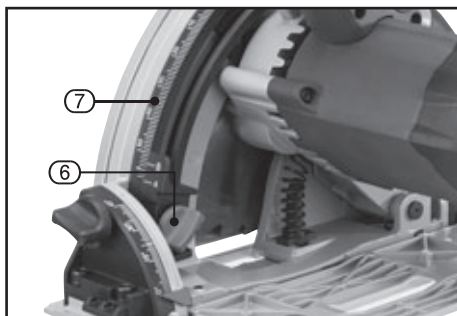

FIG.7
9.3 CUTTING DEPTH ADJUSTMENT – FIG.7
- Unfasten the cutting depth adjustment knob (6) and set the required depth using the scale (7) and retighten the knob.